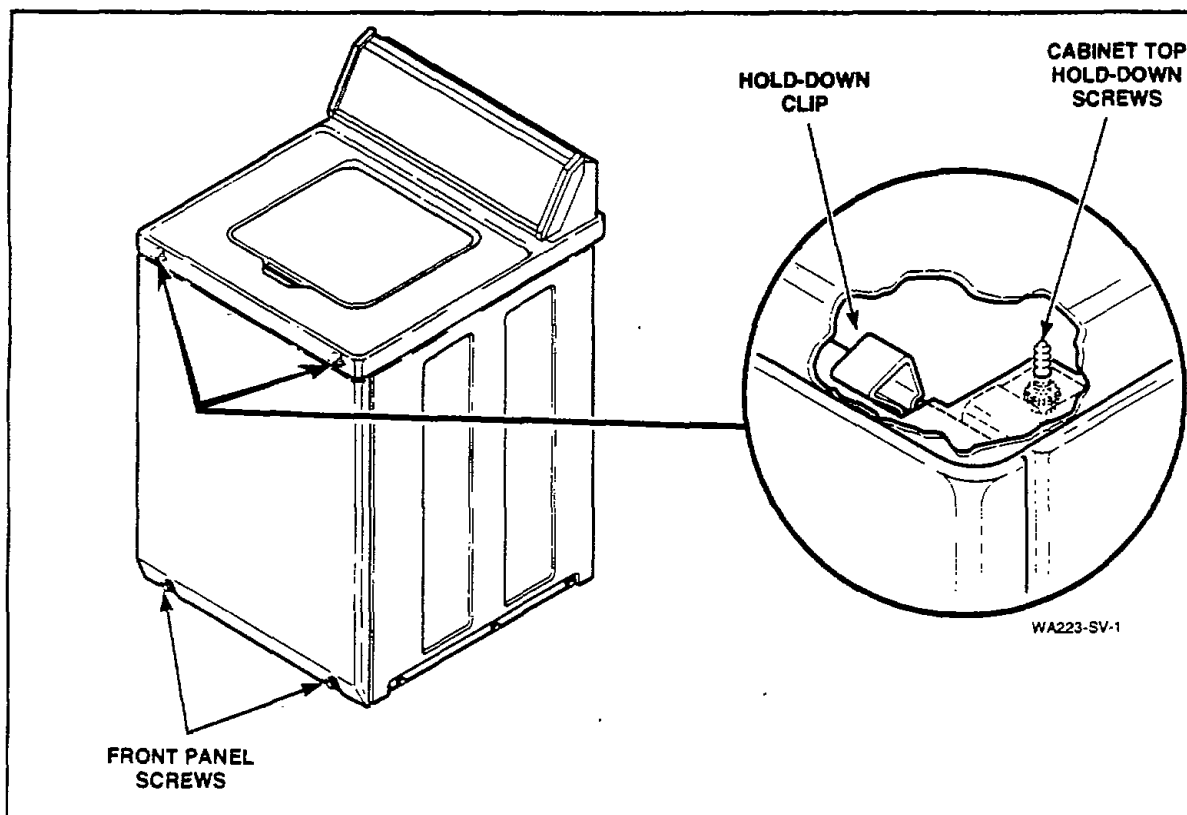

Figure 23
14. FRONT PANEL (Figure 23)
- Remove two screws from bottom edge of front panel, Figure 23.
- Remove two screws from bottom edge of front panel, *Figure 23*.